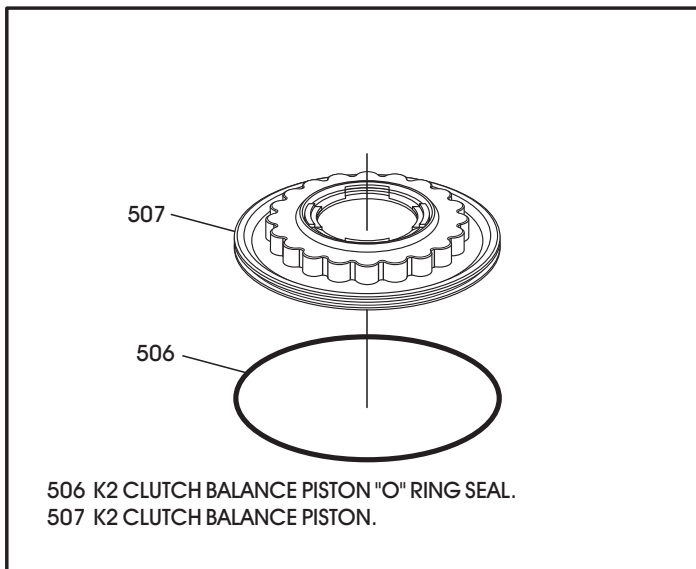

Figure 89
4. Install new "O" ring seal onto the K2 clutch balance piston, as shown in Figure 89.